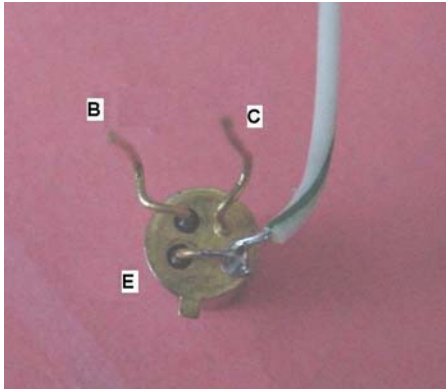

Figure 1: Three views, Q11 lead preparation
- 2) Prepare Q11 as follows, referring to Figures 1, 2 and 3: Using anti-shock cutters if possible, remove the orientation tab from the can. Bend the leads as shown, to accommodate the connections to be made. Solder a stranded #24AWG extending wire to the emitter lead (this is not the wire type shown in the photograph, which was used for demonstration only). Use shrink tubing to insulate the lead from the D31 lead.